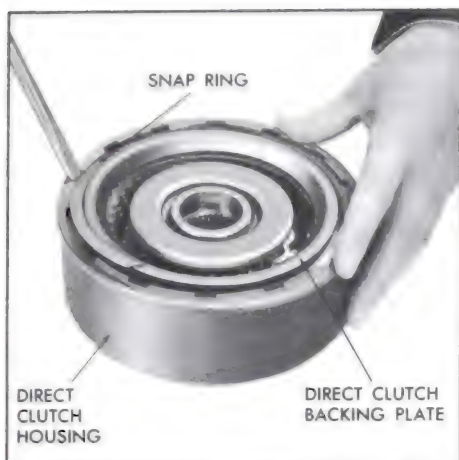

Figure 5-641
10. Install the backing plate retaining snap ring. See Figure 5-641.